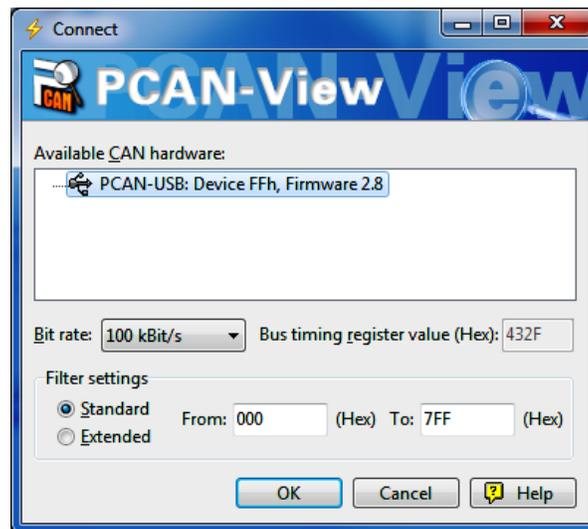

Figure 26 • Connect to the CAN Hardware
7. Choose **Connect** from the **CAN** menu to connect to the PCAN-USB adapter. The **Connect** window is displayed as shown in Figure 26.
8. Select the **Bit rate** as **100 kBit/s** as shown in Figure 26.